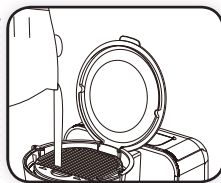

Figure 29
- 6 Fill the water reservoir with clean, fresh water. (figure 29)